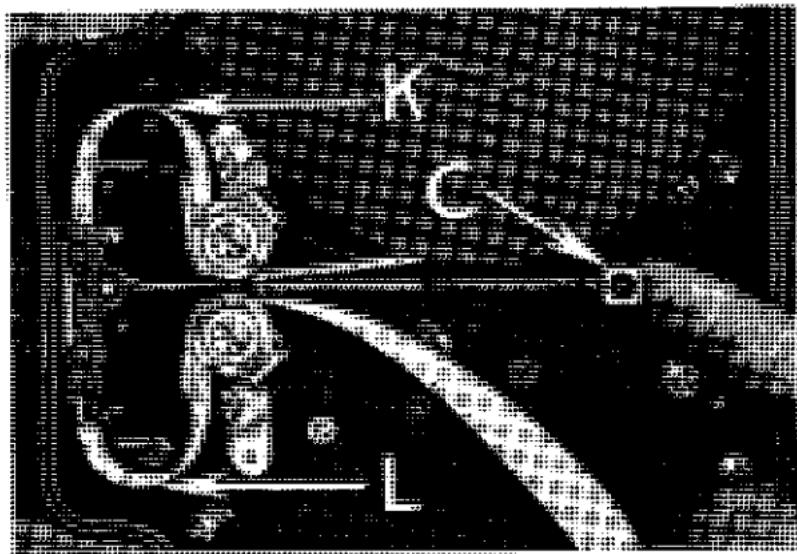

Figure 9
8. Inspect the upper and lower film loops, K and L, Figure 9. They should be of the size shown, their extremities being about  $\frac{1}{4}$  inch from the metal camera shell. Correct their size if necessary by drawing the film forward or backward over the lower sprocket.
10. Make sure that the leader perforations are still engaged with the teeth of both feed and take-up sprockets and with the shuttle teeth and that the loops are still of the size described in paragraph 8. Then close the film gate by pushing the film gate arm C forward as far as it will go. Be careful not to stop at the intermediate point. The gate should be pushed up snugly against the film. This operation is shown just completed in Figure 9.